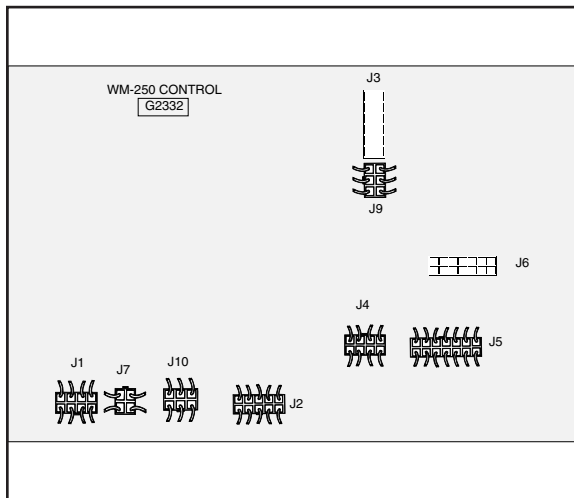

FIGURE F.5 - Control Board Molex Plug Locations for G2332 PC Control Board.
2. Disconnect Molex Plugs J3 and J6 from the G2332 Control Board. See Figure F.5.